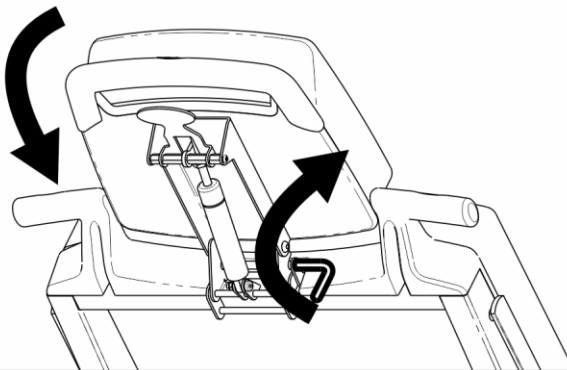
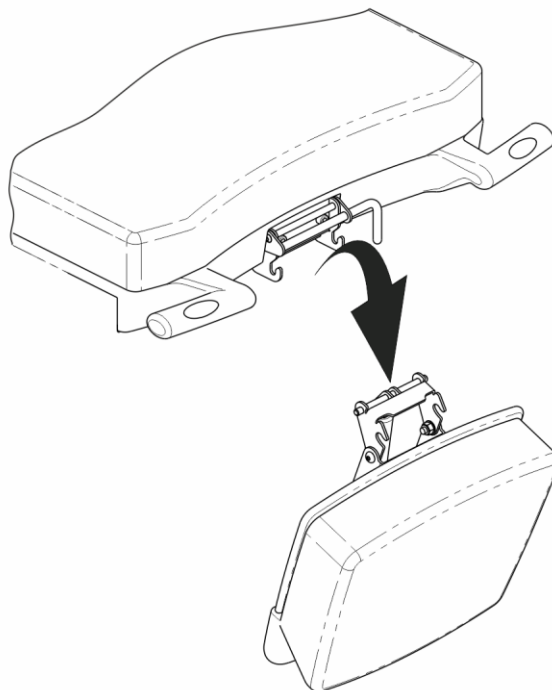

Fig. 3
Fig. 4
The head section is articulated by pulling up on the head section tilt actuation lever (item 6, fig. 2). To remove the head section, lift the release handle, then lower and remove the head section from the support bracket; as illustrated in fig. 3 and fig. 4.